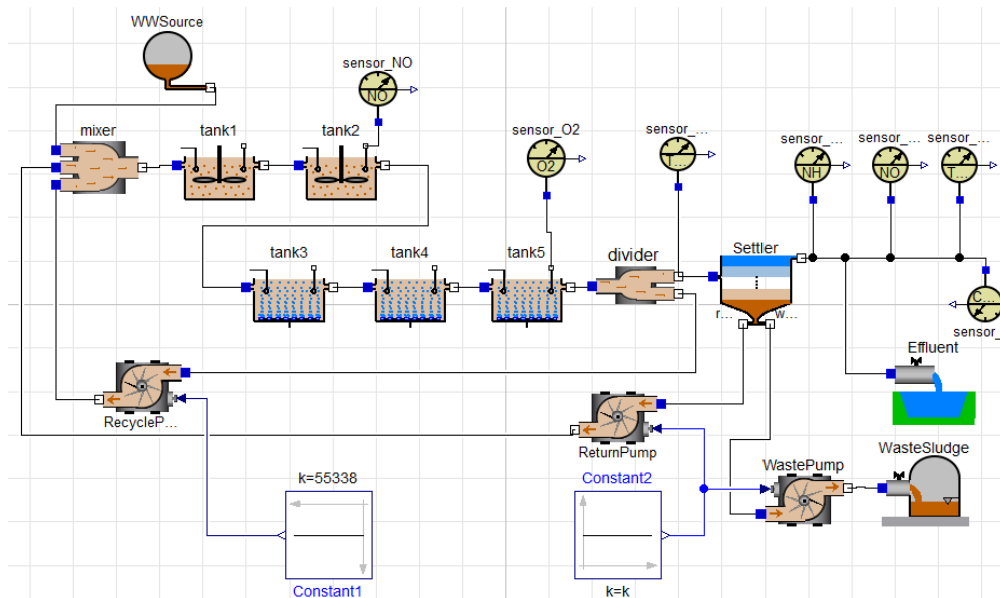

Figure 2: BSM1 Open-loop Dymola Implementation
- Develop a simulation model for the BSM1 benchmark in Dymola with the help of the WasteWater treatment package using the *ASM1/examples/BenchPlant* for the open-loop case (no active controllers). See Figure 2 as an example of an open-loop Dymola Implementation. The following changes to the ASM1 benchmark need to be made for adjustment:
- Compare your simulation results with those in the file "Verificationdata.pdf" using the component names as shown in Figure 2.
- Potential manipulated variables: K_{la} of tanks 3, 4 and 5 (tank3. K_{la} , tank4. K_{la} , tank5. K_{la}), flowrates of the outer recycle loop (ReturnPump.Q) and inner recycle loop (RecyclePump.Q), see Figure 2.